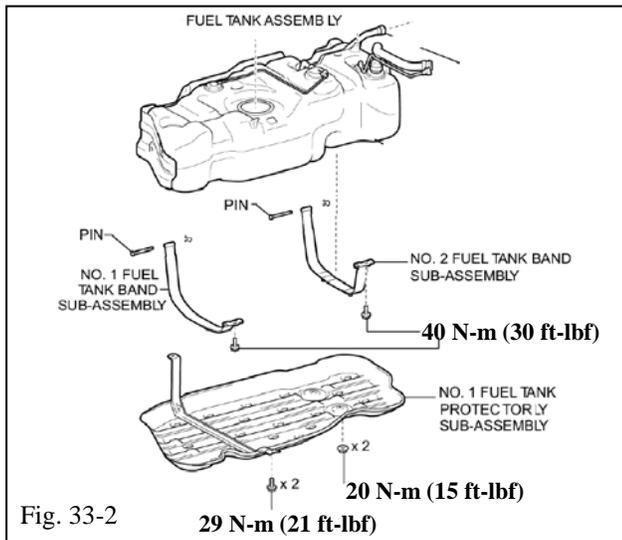

Fig. 33-2
- S**(c) When reinstalling the fuel tank assembly, use the torque specifications indicated in Fig. 33-2.